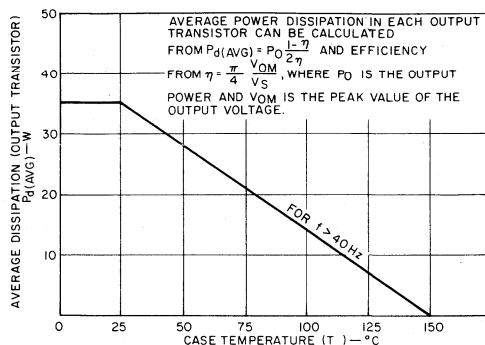

Fig. 4 — Dissipation (average) derating curve for each output transistor in type HC1000 (for symmetrical waveforms with  $f > 40$  Hz).
6. Because the output waveform is basically a sine wave with a frequency greater than 40 Hz, the curve shown in Fig. 4 is used for temperature derating; the maximum allowable case temperature is found to be  $92^\circ \text{C}$ .